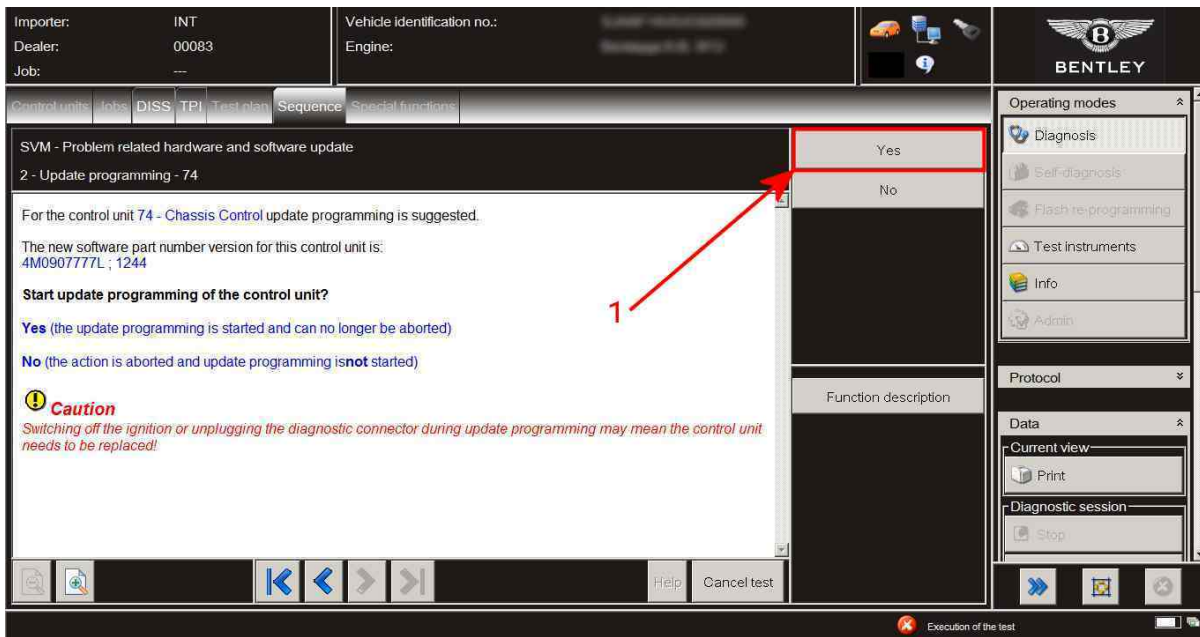

Figure 5
13. Select Yes to update (Figure 5 point 1)